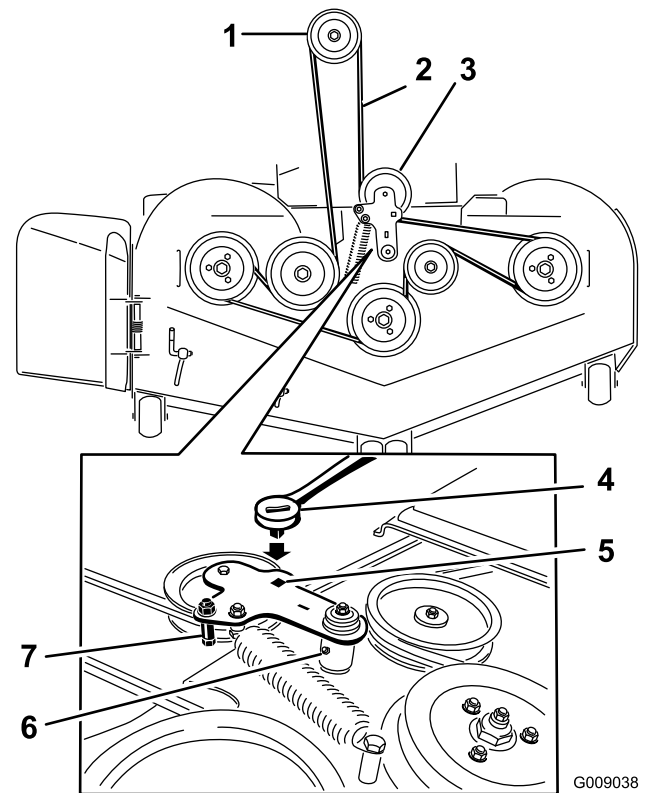

Figure 97
5. Lift up the floor pan and insert a ratchet into the square hole in the deck idler (Figure 97).
6. Rotate the deck idler clockwise and remove the mower belt (Figure 97).